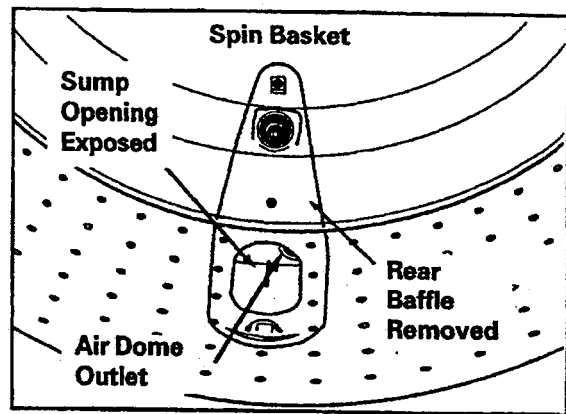

Figure 2-5
4. Grasp and lift the airdome hose from the sump area (Figure 2-5).
1. Thread the narrow end of the hose through the air dome outlet in the rear of the outer tub (Figure 2-5). Apply alcohol to lubricate the hose to ease insertion into the outer tub air dome outlet.